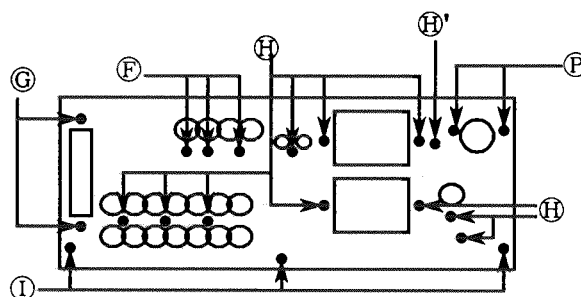

FIG.3 Rear side
2. Remove 19 screws (F),(G),(H),(H') and (I). (Not used (H') for Universal type.) (Remove 2 screws (P).Only used Universal type.) (FIG.3)
2. Remove 2 screws (C).(FIG.3)
3. Remove 3 screws (L).(FIG.3)